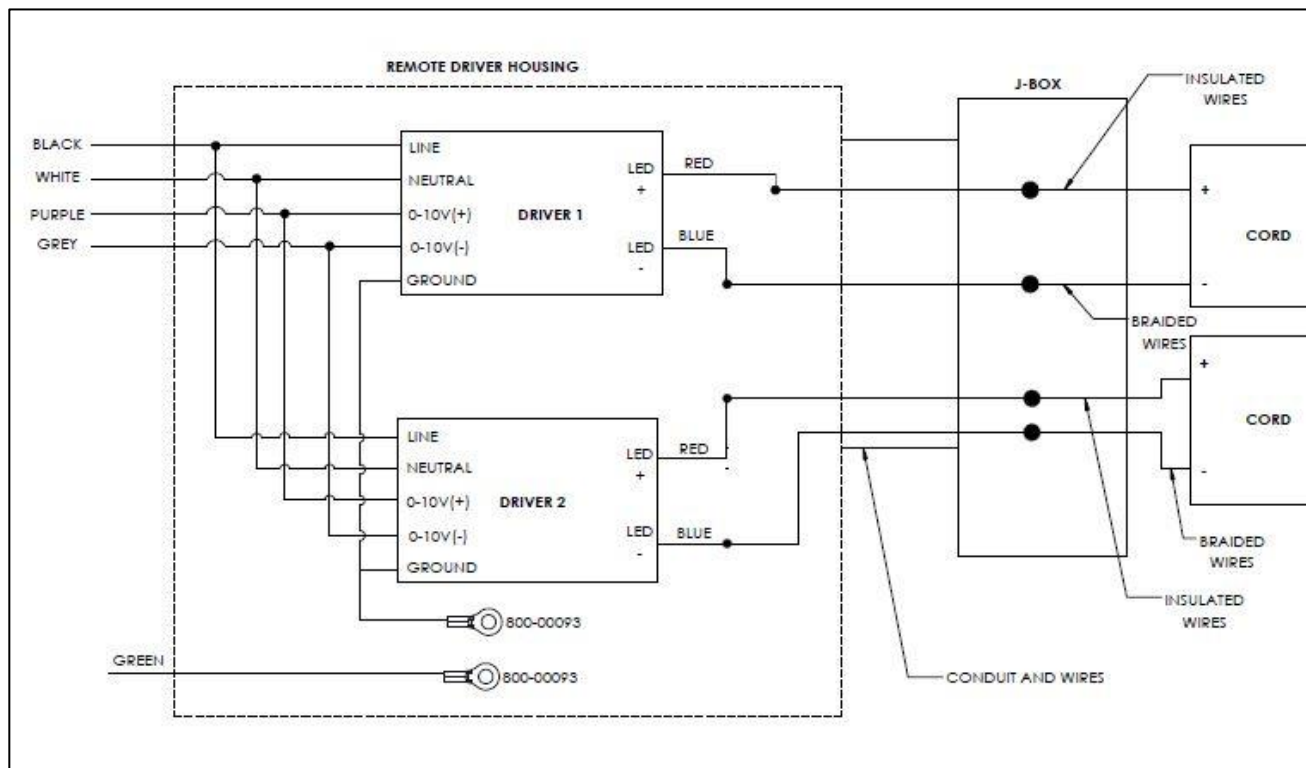

FIG. 14 – WIRE DIAGRAM FOR 72" MODEL
10. Connect the Fixture Cord wires as per WIRE LABEL TABLE and refer WIRE DIAGRAM as shown in FIG. 14 below for exact wire connections.